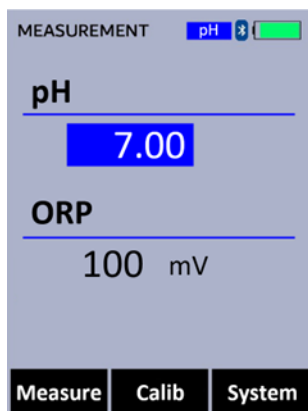

Figure 41.
4. Once the measurements are completed, the values will be displayed and the prompt message will disappear (Figure 41).